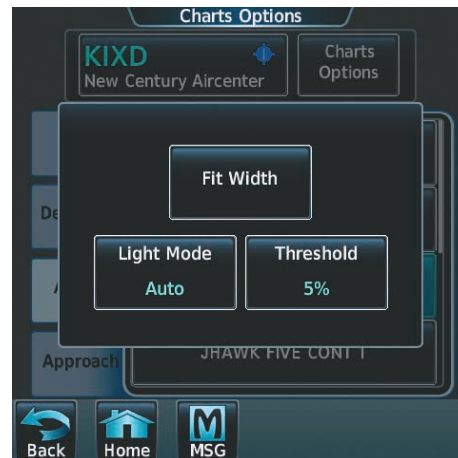

Figure 8-22 Airport Diagram Viewing Options
- 5) Touch the **Charts Options** Button to display the viewing options available for the selected chart (Figure 8-22).
- 2) Touch the **Light Mode** Button (Figure 8-22).